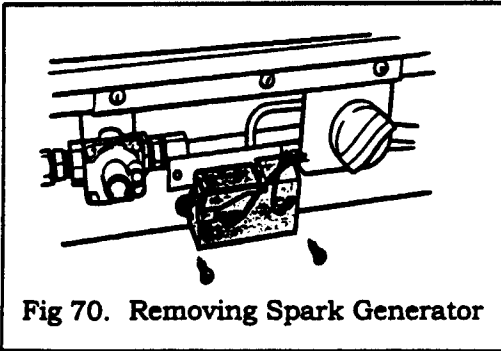

Fig 70. Removing Spark Generator
19.2.3 Remove the screws from the spark generator unit (Fig 70.)